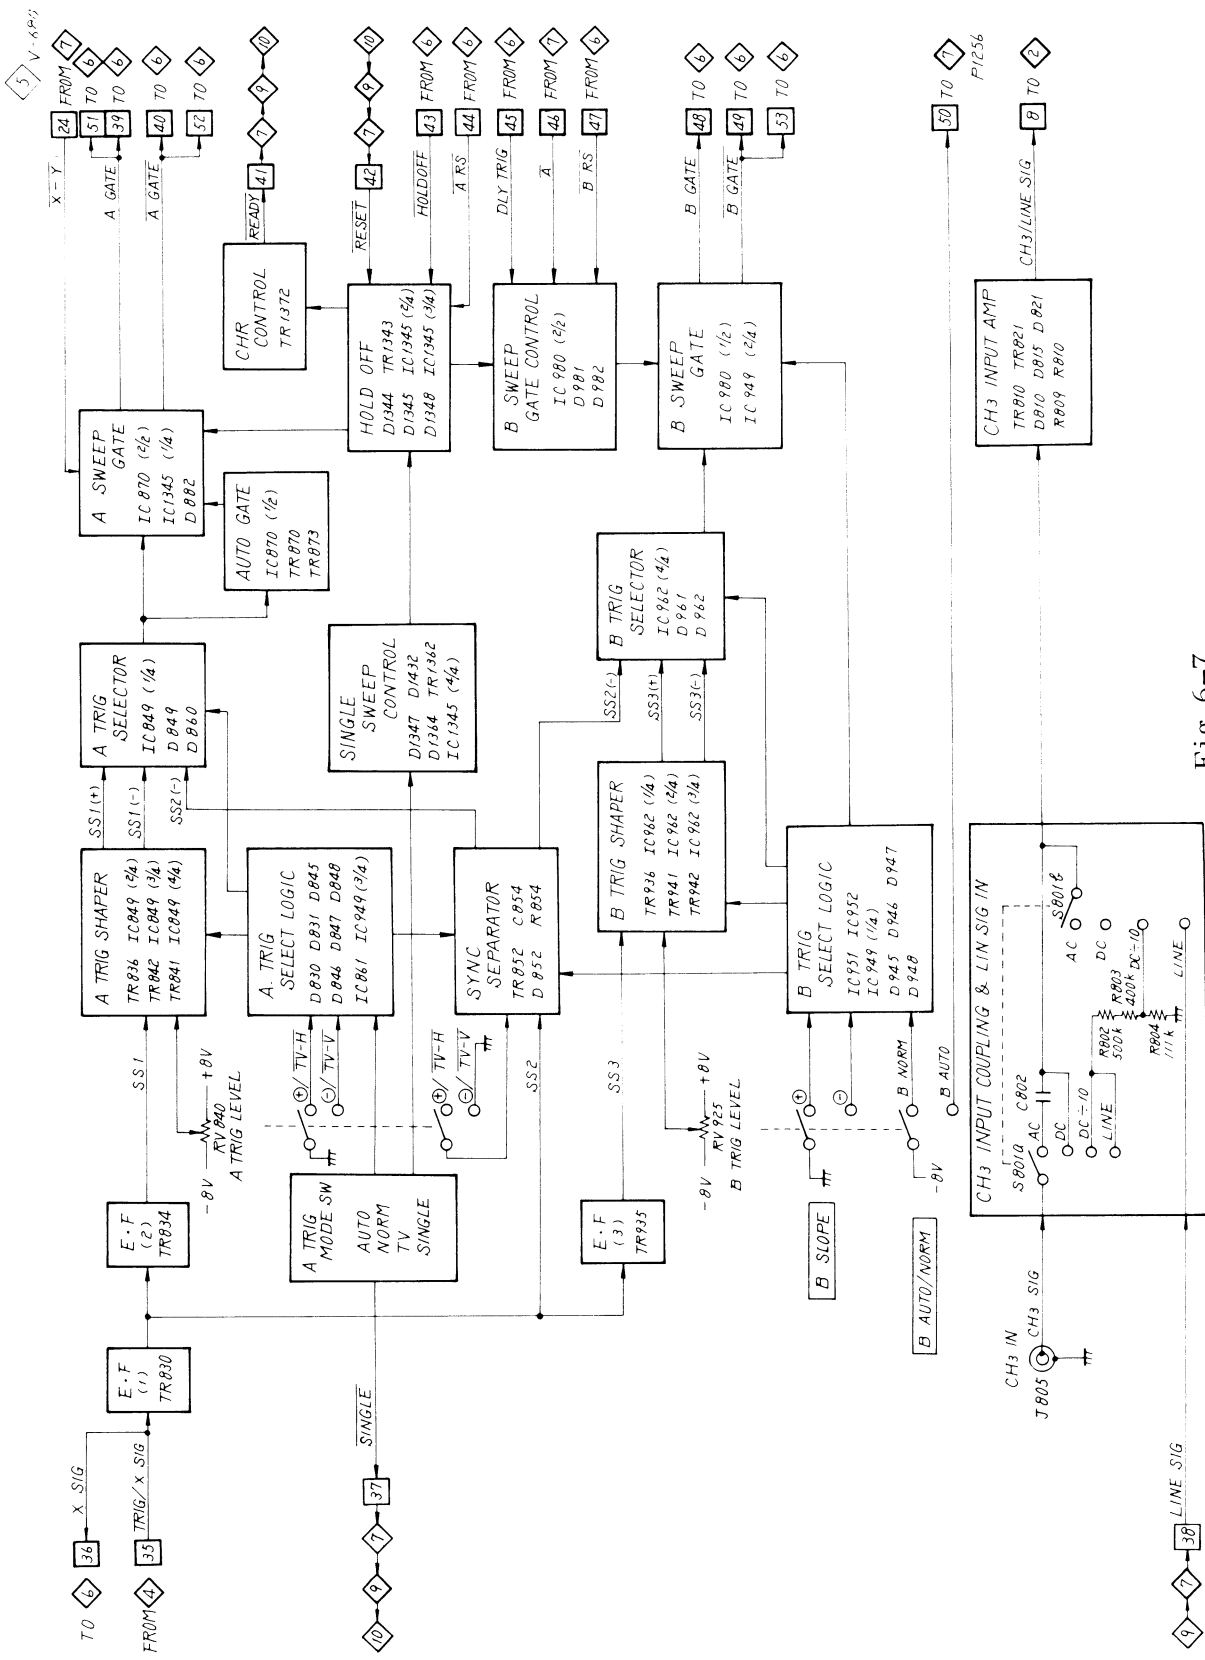

Fig. 6-7
Figure 6-7 is a detailed block diagram of the A/B SWEEP GENERATOR (1) circuit. The TRIG signal (X SIG in the X-Y operation mode) from 35 is supplied to emitter follower (E.F (1)) TR830, and is fed to the E.F (2), the SYNC SEPARATOR, and the E.F (3). Part of the TRIG signal is supplied to the circuit 6 from 36 to be used as the X SIG in the X-Y operation mode.